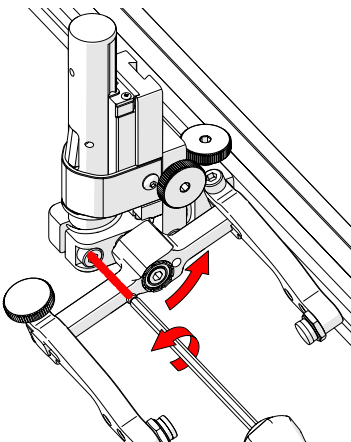

Fig. 110 - Loosen 3 mm screw
2. Using the supplied 3 mm hex driver loosen the transverse adjustment screw (*Fig. 110*) and rotate the yoke about the vertical shaft achieving the desired angle.